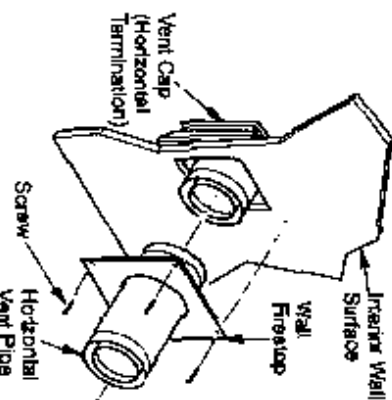

Figure 12 - Connecting Vent Cap with Horizontal Vent Pipe
Connecting Vent Cap with Horizontal Vent Pipe: Slide wall freestop over vent pipe before connecting horizontal run to vent cap (see Figure 12).
7. **Connecting Vent Cap with Horizontal Vent Pipe:** Slide wall freestop over vent pipe before connecting horizontal run to vent cap (see Figure 12).